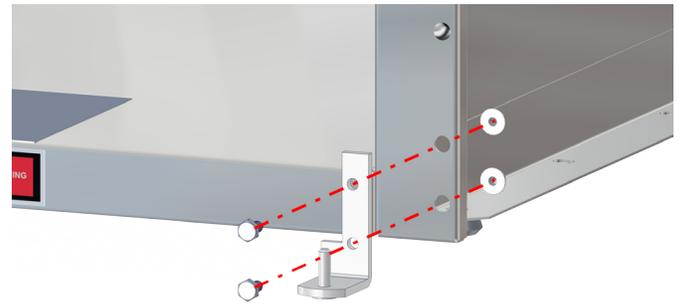

Fig. 14: Attach hinge - bottom
15. Attach the hinges to the top and bottom of the unit using the hardware provided. Attach the bottom hinge first to the unit (Fig. 14).